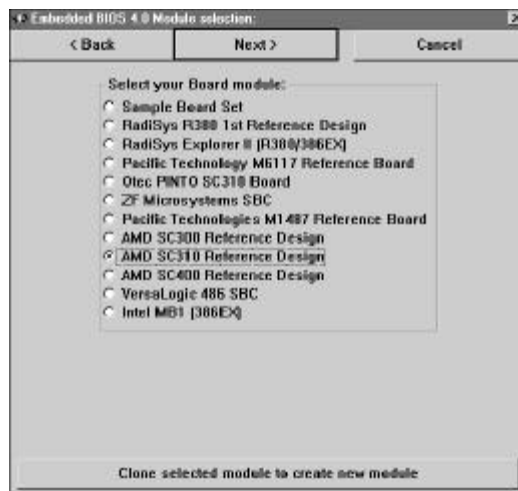

Figure 6.1. Board Personality Module selection.
2. Start a new Embedded BIOS 4.1 Project. Click on the Start a new Project button, select and clone a board module. Click on the listed board module that most closely resembles your project (see Figure 6.1.) Click on the button labeled **[Clone Selected Module]**. This will open up the Clone New Module dialog box.